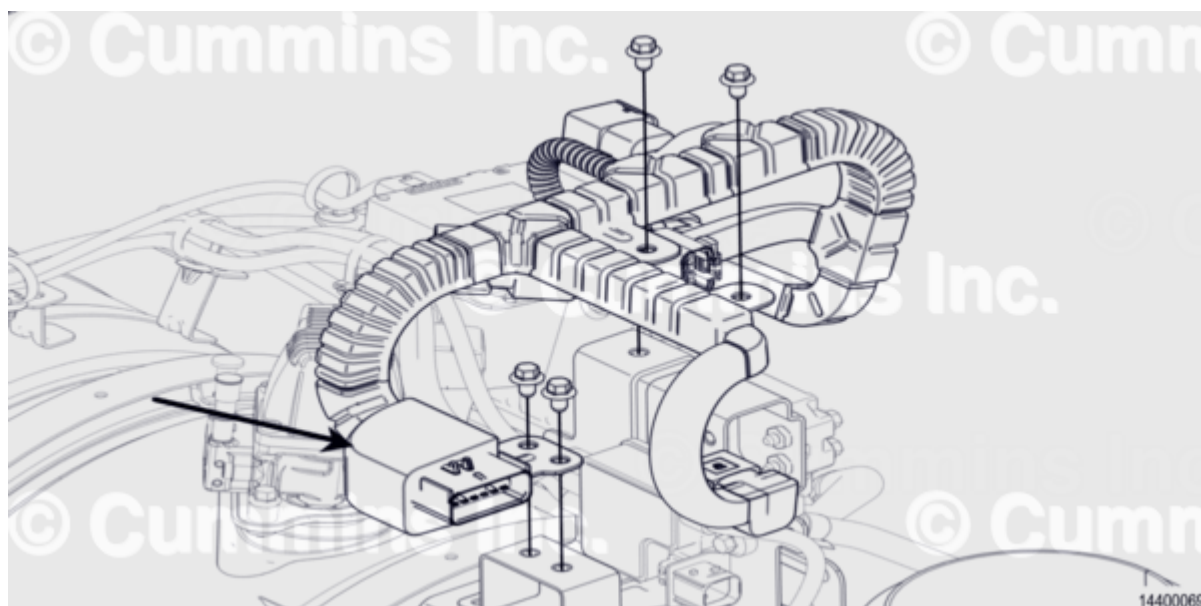

Figure 9, Aftertreatment Interface Harness
2. Unplug the aftertreatment interface harness. See Figure 9.